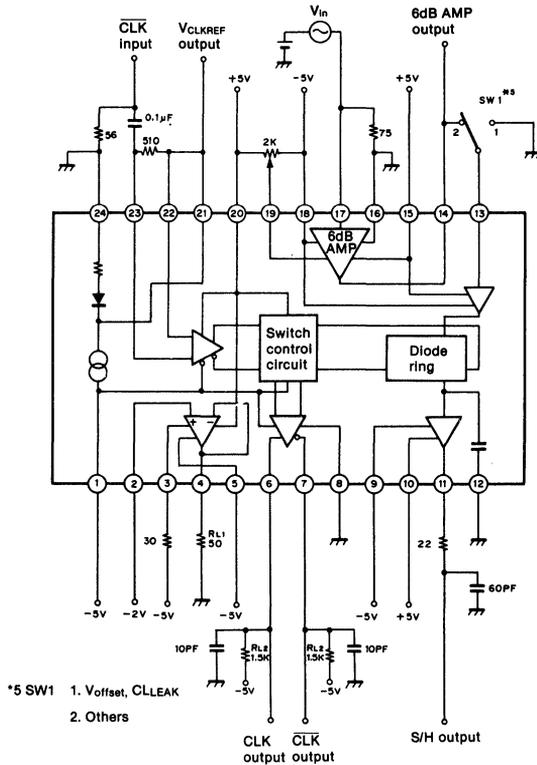

Fig. 3
6dB amp section (see Fig. 3)
*3 2ndary harmonic: -40dB $f_{in} = 3.58MHz$ *4 $f_{in} = 3.58MHz$ $V_{in} = 1V_{p-p}$ **CLK OUT section (see Fig. 3)**
-2V_{ref} amp section (see Fig. 3)